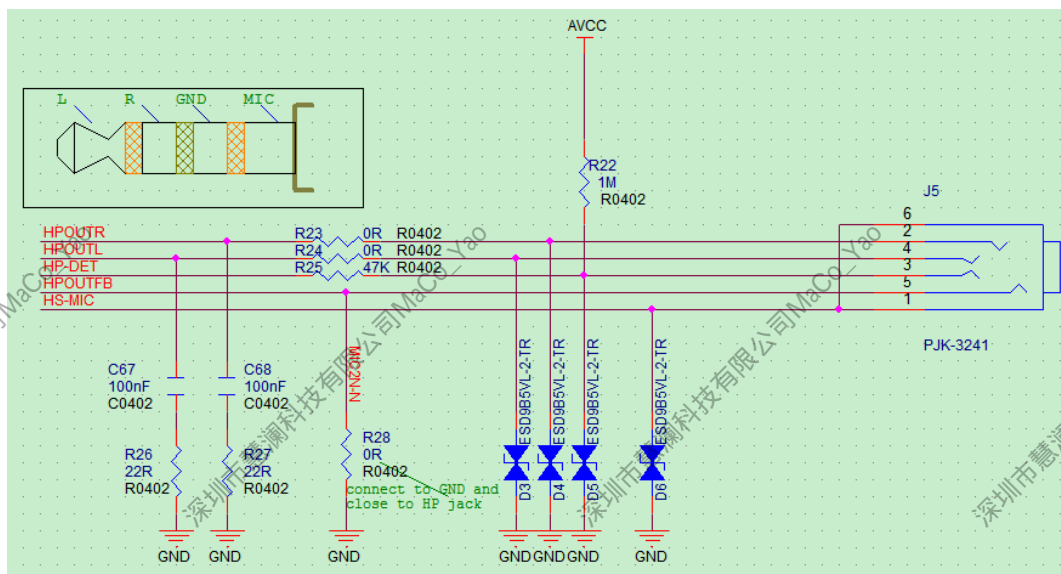

Figure 2-43 Headphone Interface Circuit Design
- Must reserve the RC circuit of headphone output, such as C67/R26, C68/R27 shown in Figure 2-43. The grounded resistor of HPOUTFB is close to the headphone socket, and the trace between the headphone socket and the grounded resistor R28 must be at least 15 mil. Refer to the ground of the headphone socket for the MIC2N-N network. As shown in Figure 2-43.
- The headphone detection is to detect the high and low state of HP-DET level. If the headphone is inserted, and the 3 and 4 pins are shorted, the resistance R84 NC is not mounted; If the headphone is removed, and the 3 and 4 pins are disconnected, the resistor R84 is mounted at 100K, as shown in Figure 2-43. The effective levels detected by different headphones need to be modified in the sys_config configuration file.